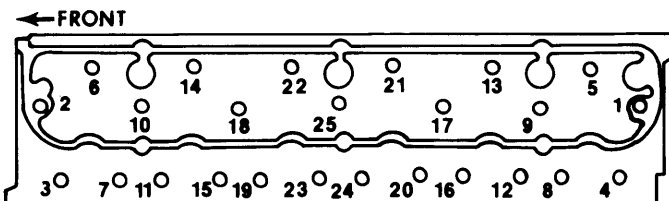

Fig. 1 Cylinder Head Bolt Removal
3) Disconnect alternator bracket and engine lifting fixture and position to one side. Remove cylinder head bolts in sequence shown in Fig. 1.